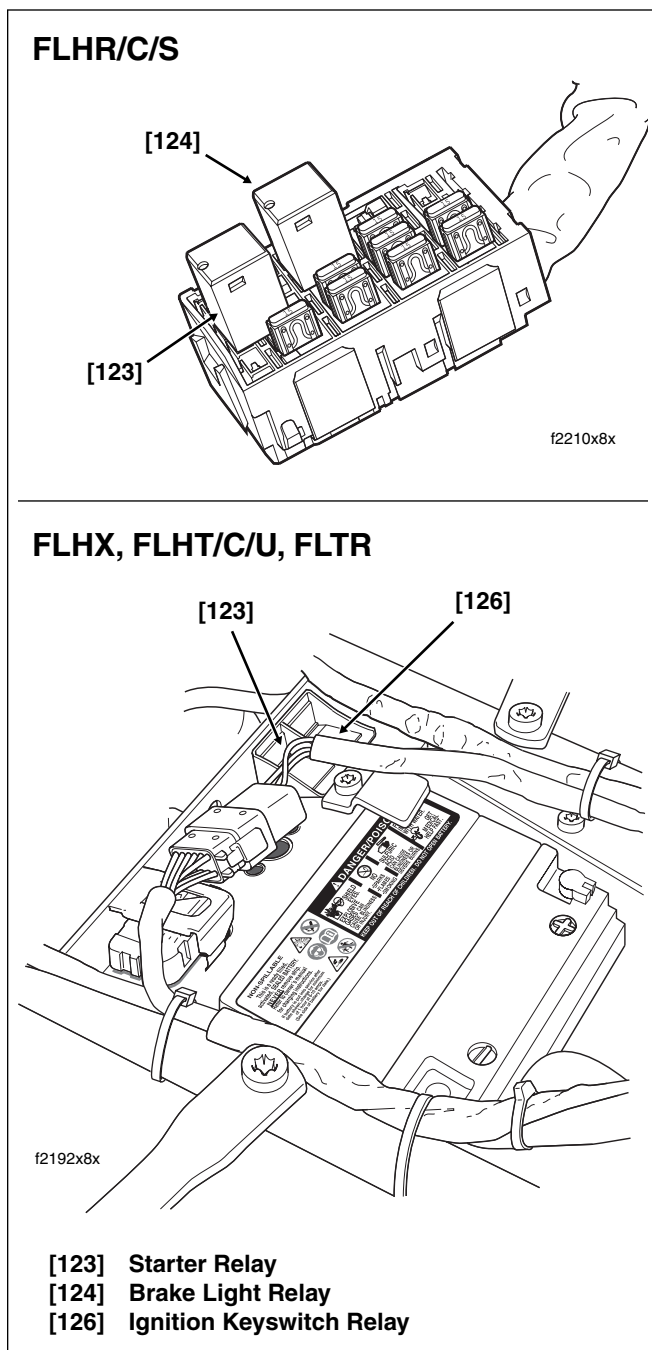

Figure 5-2. Locate Starter Relay
6. Pull relay from slots in fuse block. See upper frame of Figure 5-2.
2. Locate the starter relay installed in cavity of frame cross-member at rear of battery box. See lower frame of Figure 5-2.